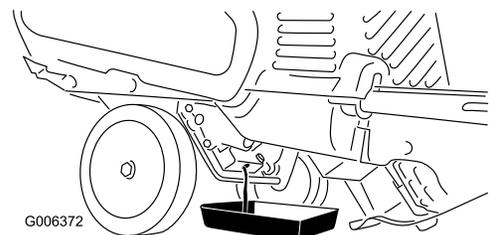

Figure 23
3. Place an oil-drain pan under the oil-drain plug, remove the plug, and tip the machine backward and drain the used oil in the pan (Figure 23).